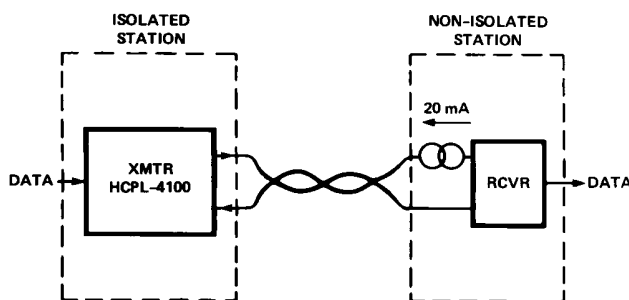

Figure 11. Simplex Point to Point Current Loop System Configuration.
- Derate linearly above a free-air temperature of 70°C at a rate of 2.3 mW/°C. A significant amount of power may be dissipated in the HCPL-4100 output circuit during the transition from the SPACE state to the MARK state when driving a data line or capacitive load (C_{OUT}). The average power dissipation during the transition can be estimated from the following equation which assumes a linear discharge of a capacitive load: $P = I_{SC} (V_{SO} + V_{MO})/2$, where V_{SO} is the output voltage in the SPACE state. The duration of this transition can be estimated as $t = C_{OUT} (V_{SO} - V_{MO})/I_{SC}$. For typical applications driving twisted pair data lines with NRZ data as shown in Figure 11, the transition time will be less than 10% of one bit time.
The simplex configuration, whether point to point or multidrop, gives unidirectional data flow from transmitter to transmitter(s). This is the simplest configuration for use in long line length (two wire), moderate data rate, and low current source compliance level applications. A block diagram of simplex point to point arrangement is given in Figure 11 for the HCPL-4100 transmitter optocoupler.